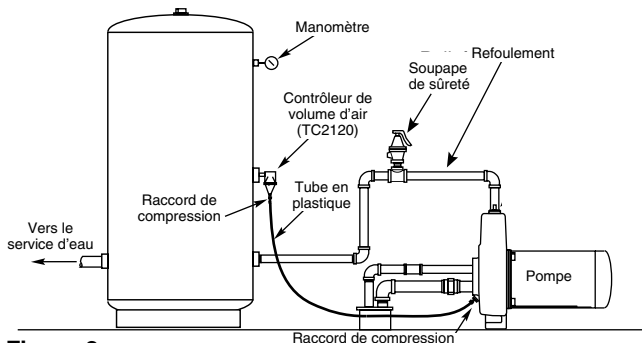

Figure 2
**INSTRUCTIONS D'INSTALLATION DES RÉSERVOIRS VERTICAUX (FIGURES 2 ET 3)**